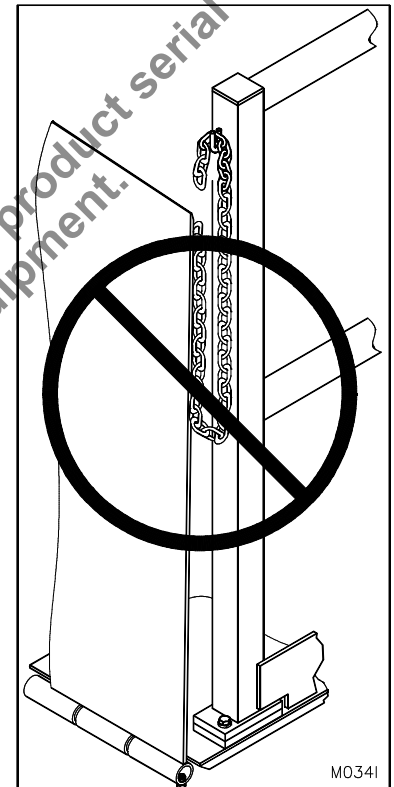
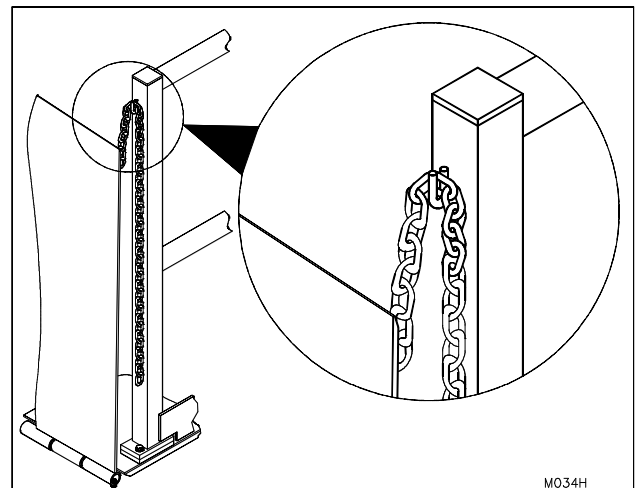

Figure 7: Hinged Bridge Not Properly Secured (See Figure 8)
Figure 8: Hinged Bridge in Vertically Stored Position
7. When not in use, the platform should be in the lowered position with the Hinged Bridge(s) and approach ramp(s) in an upright vertically stored position with the Hinged Bridge chain(s) engaged. (See “Figure 8: Hinged Bridge in Vertically Stored Position” on page 10 and “Figure 7: Hinged Bridge Not Properly Secured (See Figure 8)” on page 10)